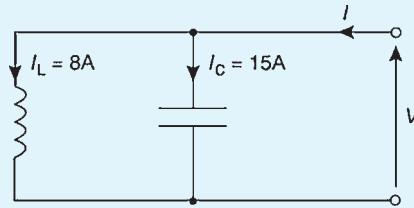

Figure 16.24
14. In the circuit shown in Fig. 16.24, the magnitude of the supply current I is: